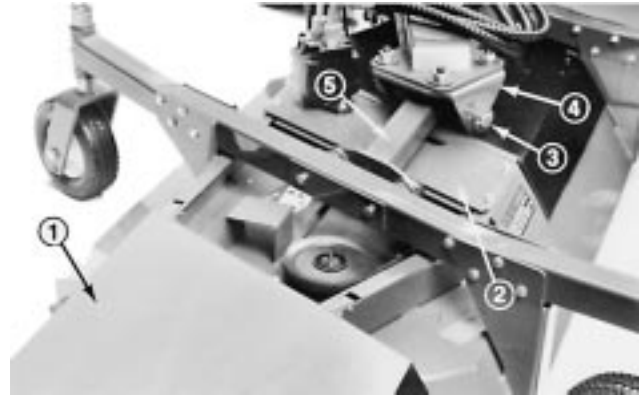

Figure 68
3. Remove flange head screws securing gearbox plate to deck. To separate plate and drive motor assembly from deck, rotate plate end toward traction unit (Fig. 68). Tip plate, motor and pulley assembly on its side and remove from deck. Be careful not to bend, twist, kink or damage flexible hydraulic lines.
4. Remove locknut securing deck pivot shaft into deck clevis and lift bar (Fig. 68).